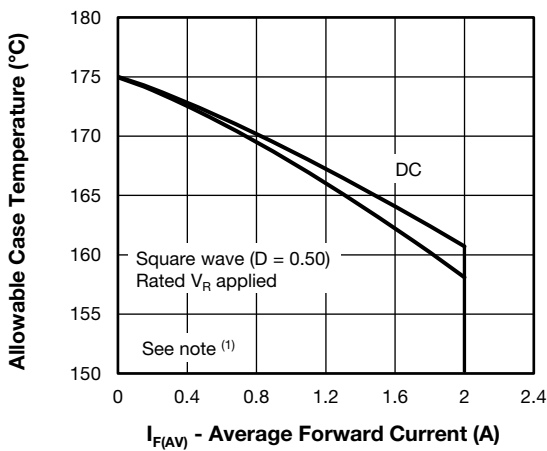

Fig. 5 - Maximum Allowable Case Temperature vs. Average Forward Current
- (1) Formula used: $T_C = T_J - (Pd + Pd_{REV}) \times R_{thJC}$;
- Pd = forward power loss = $I_{F(AV)} \times V_{FM}$ at $(I_{F(AV)}/D)$ (see fig. 5);